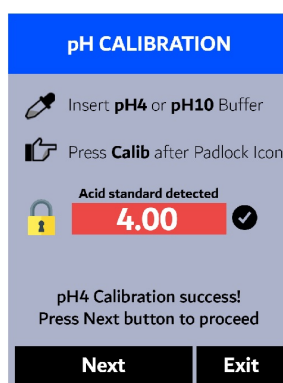

Figure 27.
15. If the calibration succeeds, a checkmark (✅) and a "pH4 Calibration success!" or a "pH10 Calibration success!" message will appear (Figure 27). Otherwise, a warning message is displayed.